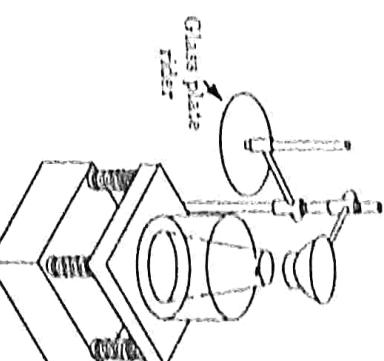

Fig. 4.7.1. Vee-Bee apparatus
3. The test consists of moulding a fresh concrete cone in a cylindrical container mounted on a vibrating table (Fig. 4.7.1).